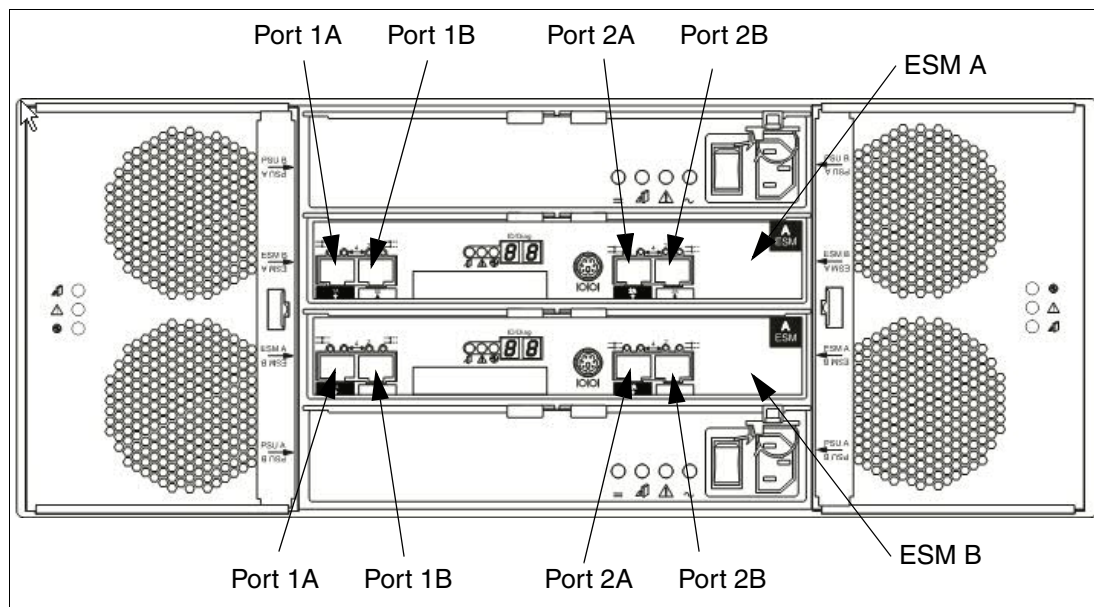

Figure 2-79 Port labels on EXP5060
- ▶ The DS5000 controller drive port must always be connected to the expansion enclosure port labelled 1B in a non-trunking configuration and 2B in a trunking configuration. Port labels are shown in Figure 2-79.